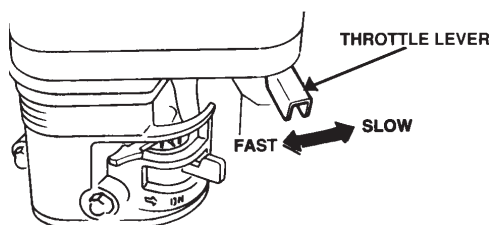
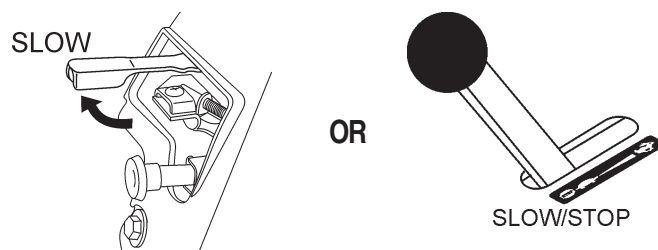

Figure 45. Throttle Lever
Figure 50. Throttle Lever (Slow Position)
1. Place the **engine throttle lever** (Figure 45) in the **SLOW** position, and listen for the engine speed to decrease. Allow engine to run for 2 or 3 minutes for proper cooldown.
2. Place the **engine throttle lever** (Figure 45 or Figure 50) in the **SLOW** position, and listen for the engine speed to decrease. Allow engine to run for 2 or 3 minutes for proper cooldown.